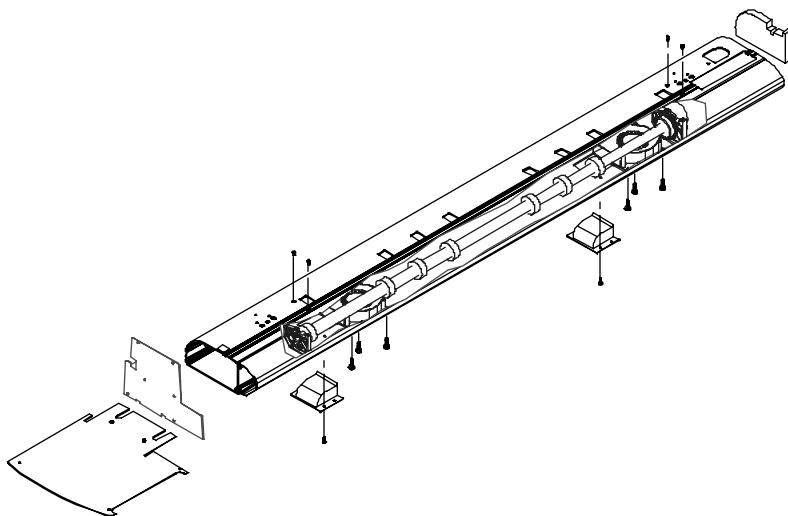

Figure 5-24. Inner Platen Assembly/Disassembly.
6. Using a #2 Phillips screwdriver, remove the two screws that secure the Left Sideplate Assembly to the Platen. See Figure 5-24.
Ensure that the Lower Drive Supports and Fan Assemblies are oriented in the correct position before inserting into the Platen. See Figure 5-24 for visual indication of correct orientation.